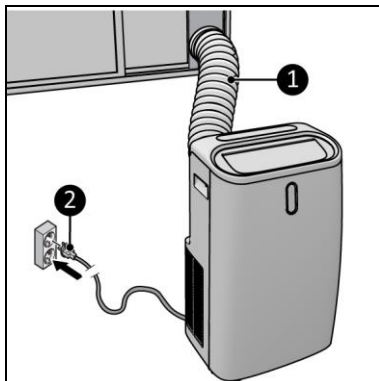

Figure 13
7. Place the power plug (Figure 13, pos. 2) into an earthed wall socket that is easily accessible. Use an earthed wall socket with a minimum power of 1800 Watt.
1. Make sure the device is switched off and the plug is removed from the power outlet (Figure 13, pos. 2).